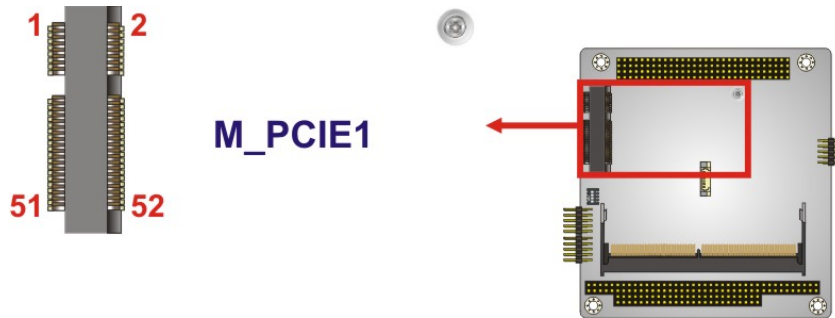

Figure 3-15: PCIe Mini Slot Location
- CN Location:** See **Figure 3-15**